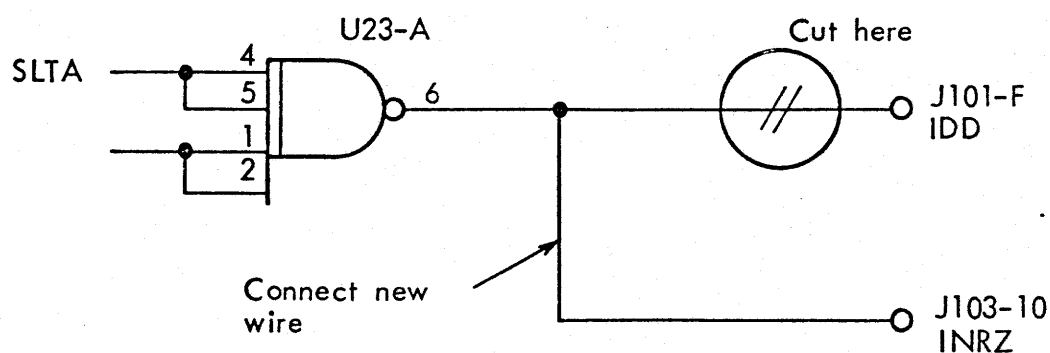

Fig. 3. Modification in tape transport.
3.2.1. Cut printed circuit connection between R36 point X and U2 ben 11. (Fig. 3).
3.2.2. Disconnect R301 left side and solder a wire to the resistor. (See Fig. 3).